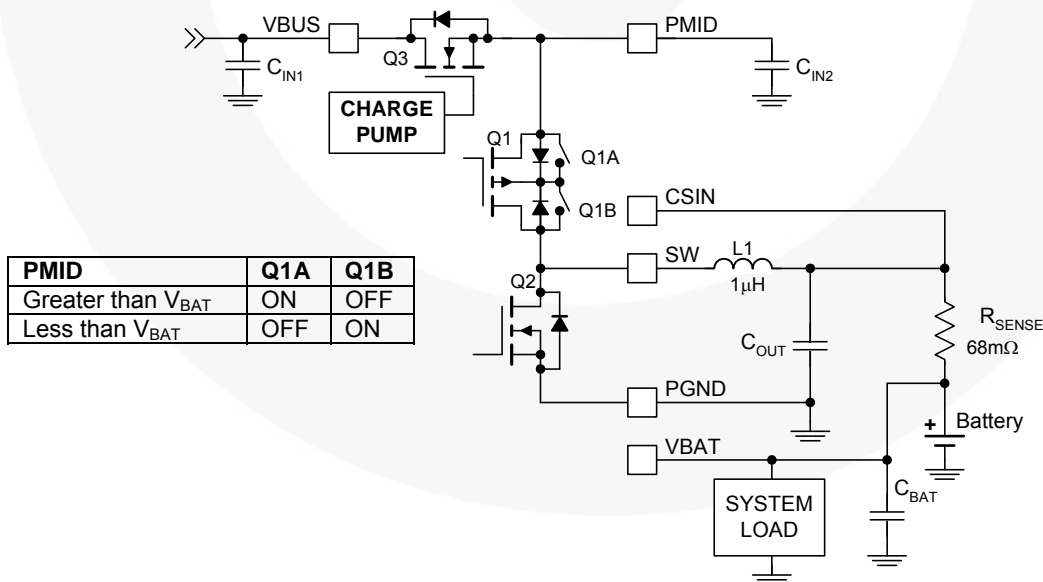

Figure 3. Power Stage
3. A 6.3 V rating is sufficient for C_{MID} since PMID is protected from over-voltage surges on VBUS by Q3 (Figure 3).